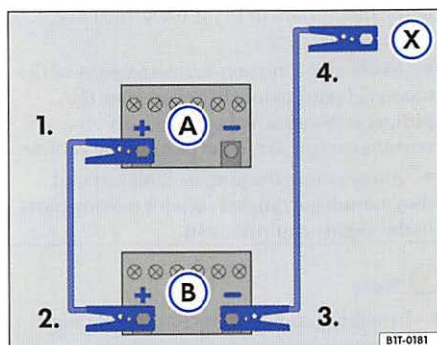

Fig. 41 How to connect the jumper cables
In the ⇒fig. 41 (A) is the discharged battery and (B) is the charged battery.
1. Connect one end of the red jumper to the positive ⇒fig. 41 (+) terminal of the vehicle with the discharged battery (A).
2. Connect the other end of the red jumper lead to the positive terminal (+) of the battery supplying the electricity (B).
3. Connect one end of the black jumper lead to the negative terminal (-) on the battery supplying the electricity (B).
4. Connect the other end of the black jumper lead (X) to a solid metal component which is bolted on to the engine block, or onto the engine block itself of the vehicle with the discharged battery. Do not connect it to a point near the battery (A).